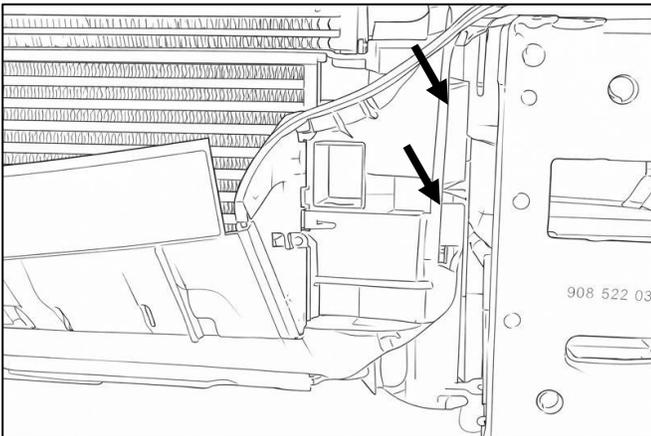

Figure 10: Airflow Skirt Clip Location
12.  Remove the airflow skirt by carefully unclipping it from each side of the radiator and the (3) clips located on the bottom. See **Figure 10**.